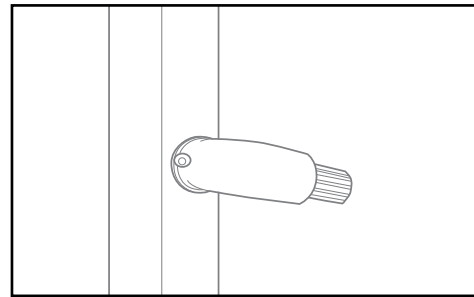

Fig. 7
- After railing installation has been dry fit, disassemble and apply aluminum adhesive and permanently mount the Hand Rail lineal - Fig. 7.